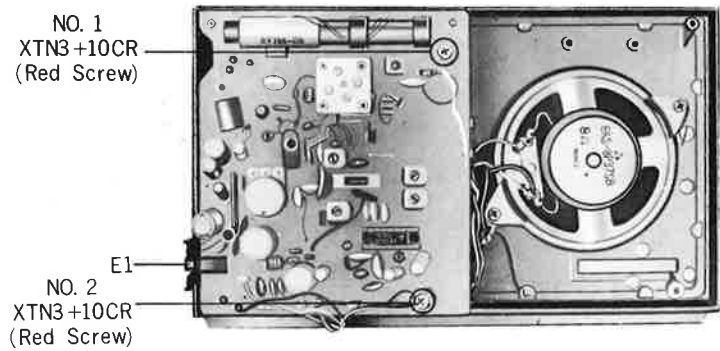

Fig. 2
5. Remove the two red screw for the chassis, as shown in Fig. 2.